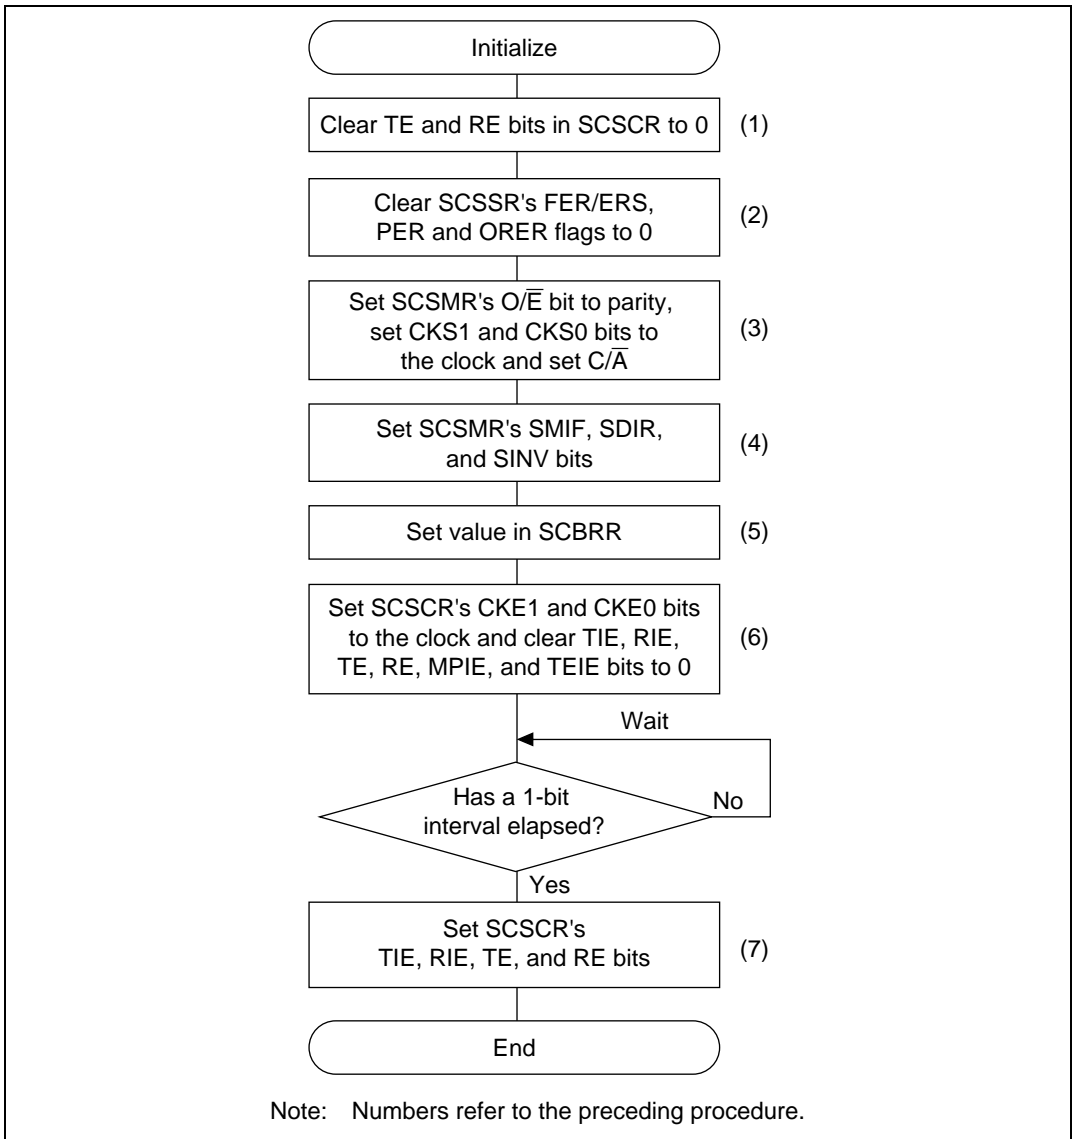

Figure 18.5 Initialization Flowchart (Example)
Initialization: Initialize the SCI0 using the following procedure before sending or receiving data. Initialization is also required for switching from transmit mode to receive mode or from receive mode to transmit mode. Figure 18.5 shows a flowchart of the initialization process (example).
1. Initialize the smart card interface mode as described above in Initialization and in figure 18.5.